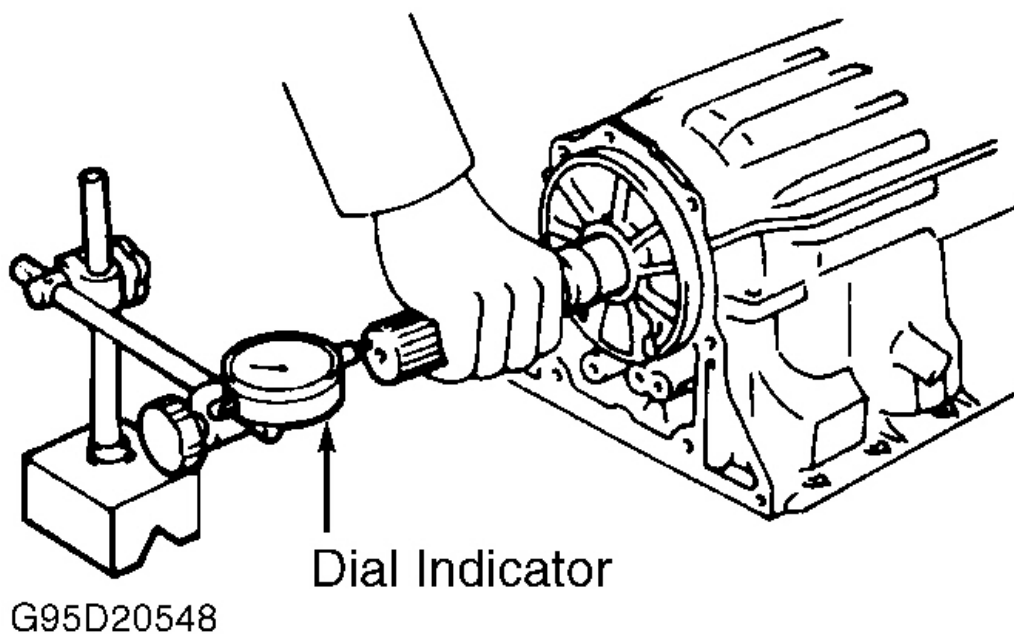

Fig. 55: Measuring Output Shaft End Play
17. Using dial indicator, check output shaft end play. See **Fig. 55** . End play should be .011-.034" (.27-.86 mm). If end play is not within specifications, check for incorrect assembly. Ensure output shaft rotates smoothly.